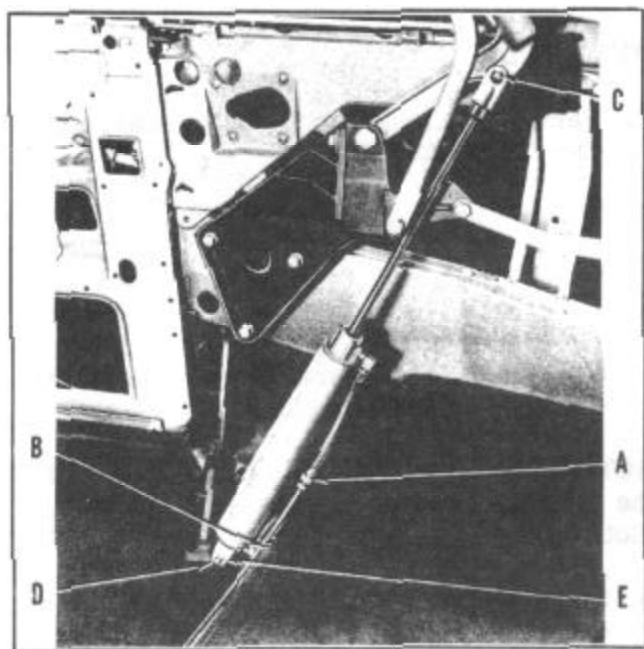

FIGURE 152
3. Remove upper (A) and lower (B) hydraulic flexible hoses, Figure 152.
4. Remove upper (C) and lower (D) clevis anchor pins and remove cylinder from car.